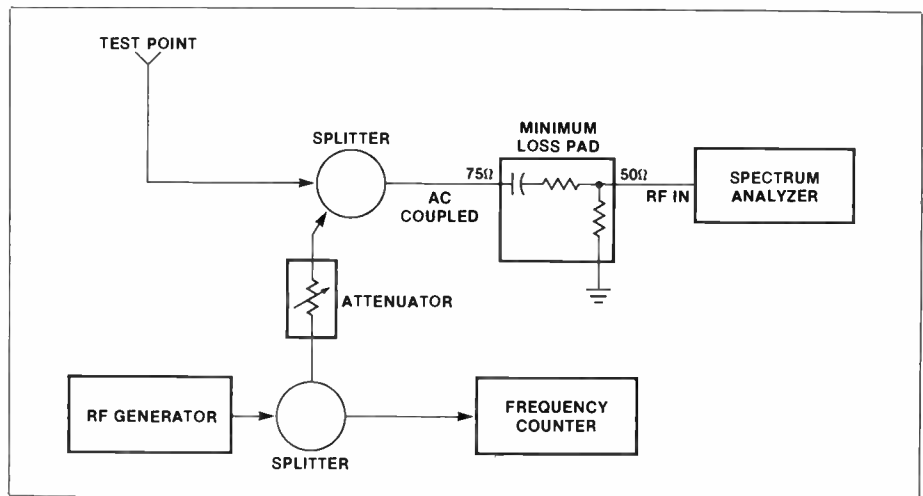

Figure 5-1 Equipment connection for frequency measurement
1. Interconnect the equipment as illustrated in figure 5-1.